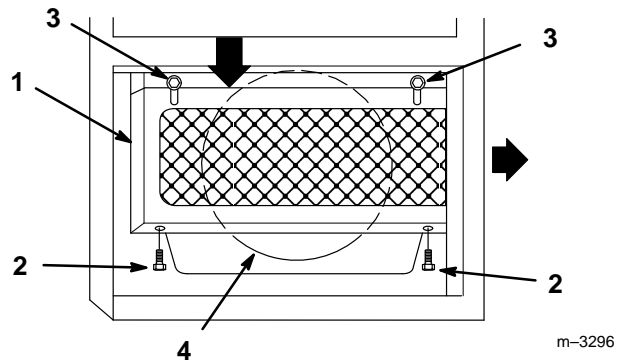

Figure 23
- To remove cooling screen remove lower bolts and loosen top bolts. Slide screen down and rearward to expose oil cooler (Fig. 23). Save all mounting hardware.
- Clean off engine air intake (Fig. 23).
- Install screen from rear and raise over oil cooler. Secure with previously removed hardware (Fig. 23).